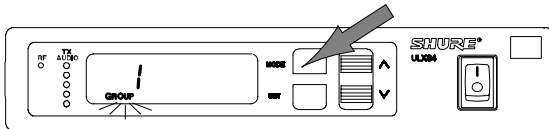

FIGURE 12
1. Press the MODE button twice. The word GROUP will flash on the display, as shown in Figure 12.